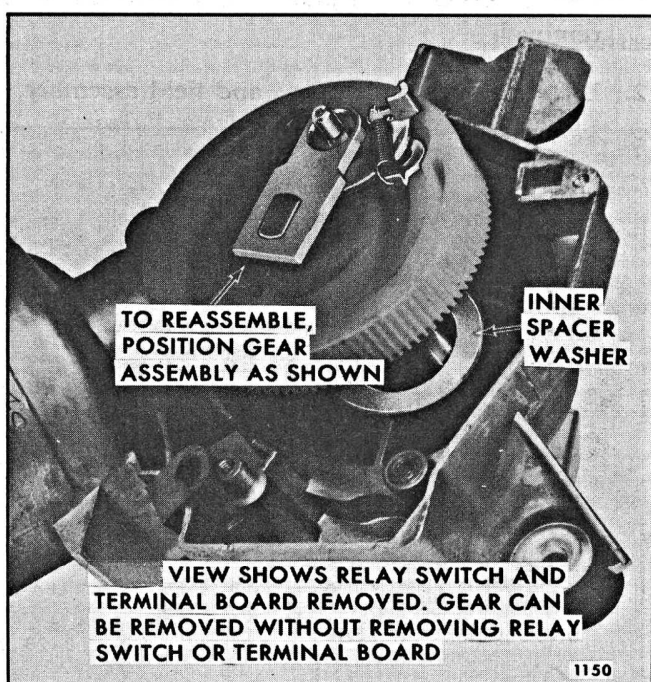

Fig. 2-107-Removing Gear
2. Slide gear assembly out of housing (Fig. 2-107). If relay-terminal board assembly has not been removed, move the relay latch arm out of the way.
5. Assemble inner spacer washer over the gear tube and reassemble gear mechanism in gearbox (Fig. 2-107).